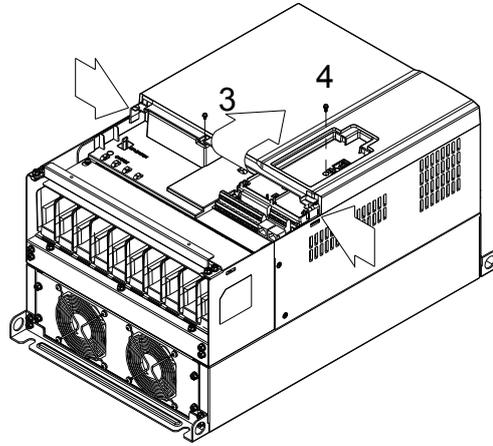

Figure 2
- Loosen screw 1 and screw 2, press the on the right and the 2. (Figure 2) Loosen screw 3, press the tab on the right and the left to remove the cover. Press on top of digital keypad to properly remove it. Screw 1, 2 『Torque :12~15kgf-cm (10.4~13lb-in)』
- (Figure 2) Loosen screw 3, press the tab on the right and the left to remove the cover. Screw 3, 4 『Torque : 6~8kgf-cm (5.2~6.9lb-in)』